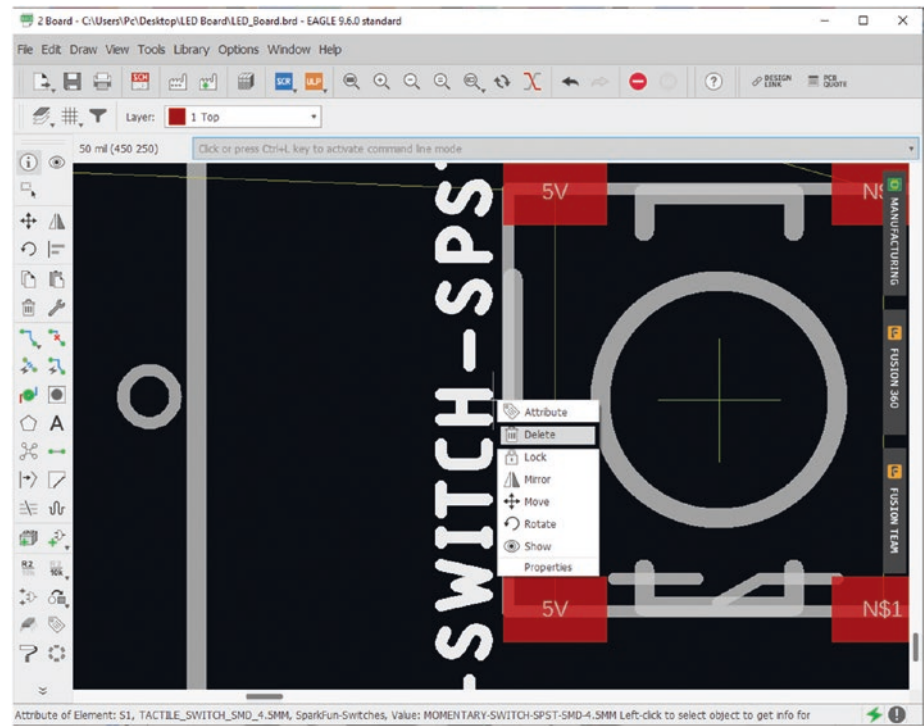

Figure 5-66. Delete button name value
- 15. You may notice that the push button's device name is very long and not necessary to put on the PCB. If you zoom in to the PCB and right-click the "+" right next to the name, you can select "Delete," and this will remove the name from the PCB. See Figure 5-66.